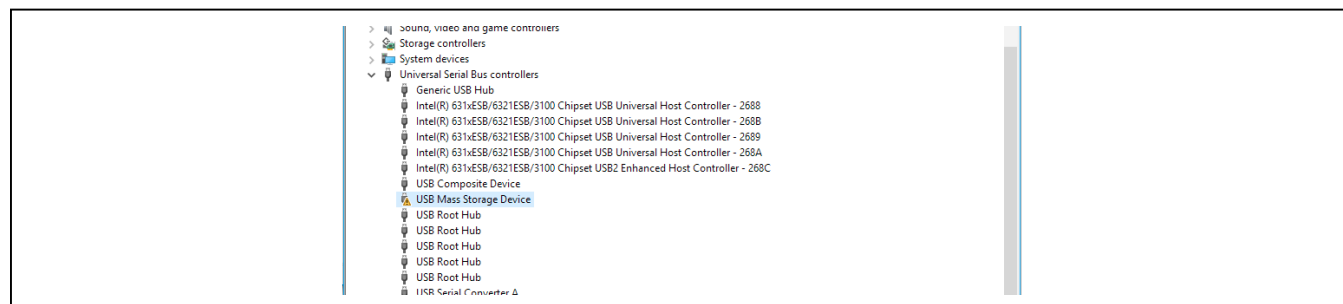

Figure 6. Device Manager Window
After completing the FPGA configuration, the PC will establish a connection to the new USB2.0 port on the FPGA. It should appear as a USB Mass Storage Device in Device Manager (Figure 6).
- c. Verify that the lower-left corner of the window states "FPGA Programmed"; this indicates the GUI is connected to the MAX5857 EV Kit through the FPGA (Figure 6)
- d. Verify lower-right corner of the app states "FPGA: USB2 Connected, JTAG Connected" indicating these specific port connections have been established (Figure 6). The USB2 should not indicate a connection until the FPGA has been programmed.